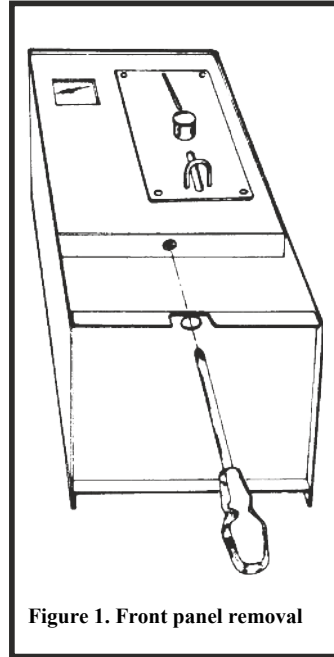

Figure 1. Front panel removal
- ii. See Figure 1. Using a No. 1, 9 inch pozidrive screwdriver remove the recessed screw and remove the front panel by pulling towards base as far as possible, lifting bottom edge slightly outwards and then lifting panel upwards. **IMPORTANT.** It is essential that panel recess is clear of case lip before attempting to lift panel out. Rotate front panel and withdraw 9 way connector from printed circuit board, thus separating front panel from the meter case. Set programming switches (Section 4) and place panel in a safe place.